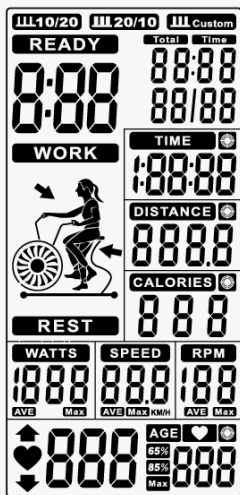
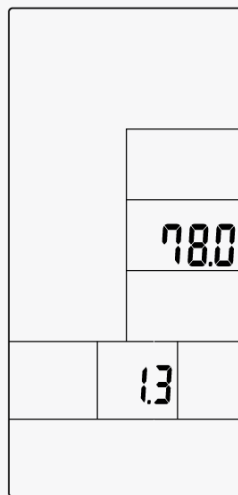
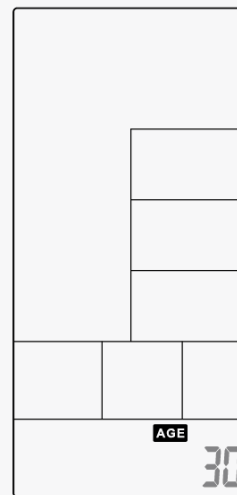

Figure 1
Figure 2
Figure 3
1. Assemble the left handlebar (18) and the right handlebar (21) with fixing nut (92) to the main frame (16), along with the inner six angle flat head screws (78), flat washer (5), spring washer (95), and the lock nut (79) in order as pictured in fig.3.
2. Connect the electronic connection (17) with six angle flat head screws (27) fixed to the main frame assembly (16). Plug cables B1 and B2 together.
3. Connect the bottle holder to the frame with screw 3 (73).
4. Plug cables A1 and A2 together and connect the computer (83) with universal joint (84) to electronic connection (17).
- When POWER ON, LCD will full display 2s (Figure 1) with long beep sound, then display wheel diameter 1s in DIST area (Figure 2). Then enter into AGE setting mode, the AGE flashing to be set (Figure 3). Press the UP/DOWN to set age and press ENTER to confirm then go to Standby mode.